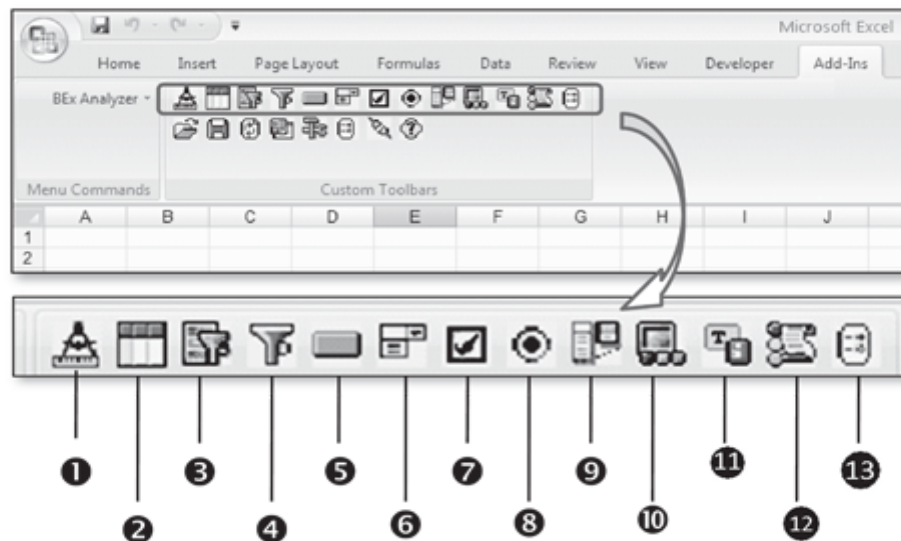

Figure 10.28 Design Functions in BEx analyzer
When you start BEx analyzer, you can see two different sets of functions available in the form of two different toolbars, the Design toolbar and the Analysis toolbar. As the name suggests, the Analysis toolbar is used to perform analysis. (We discussed the use of this toolbar in previous sections of this chapter.) The Design toolbar, shown in Figure 10.28, is comprised of different design functions that can be used to design and build an application in BEx analyzer.
Following are the different functions on the Design toolbar (Figure 10.28):
- ▶ **Insert Radio Button Group (9):** With this design item, you can provide the user with an option to select a value for a specific query element using a radio button. The specific query element is assigned to the radio button group, and values of that element are visible to the user for selection.
- ▶ **Insert List of Conditions (10):** If there are conditions defined on the query used in the workbook, you can display the list of all conditions using this design item. While performing analysis, the user can then toggle between the active and inactive states of each condition, if needed.
- ▶ **Insert List of Exceptions (10):** Similar to the list of conditions, if there are any exceptions defined on the query used in the workbook, this design item displays a list of them. These exceptions can be set as active or inactive during the analysis.
- ▶ **Insert Text (11):** This design item allows you to display different text elements for a query in the workbook. You can select from a list of different text elements that can be displayed in the workbook.
- ▶ **Insert Messages (12 of Figure 10.28):** In the course of navigation and analysis, there are different messages generated either by BEx analyzer or by the SAP NetWeaver BW system. These messages can be error messages, warnings, or information. You can use this design item to display these messages in the workbook and make a selection about the type of messages to be displayed.
- ▶ **Workbook Settings (13):** This function calls the Workbook Settings dialog, where you can maintain different settings on general workbook properties, display, variables, and so on, for the workbook.